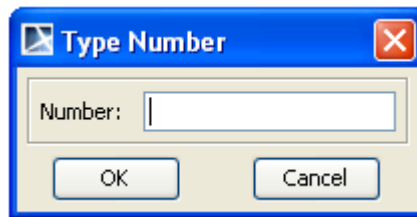

Figure 198 -- Type Number Dialog for Editing Use Case Number
5. Click **Edit** to arbitrarily create a new number or change an existing number to another number. Once selected, the **Type Number** dialog will open (Figure 198).